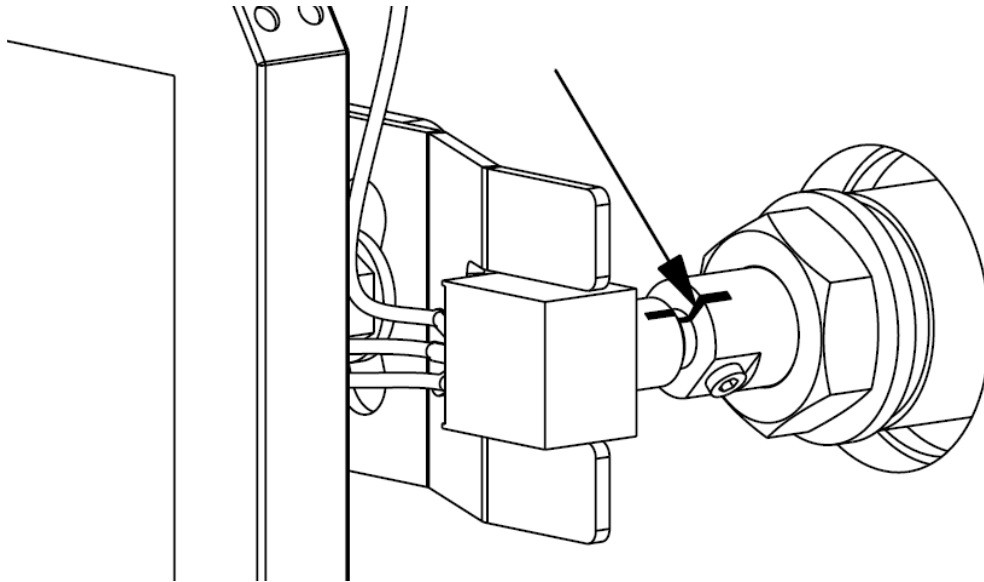

Figure 7-10: Potentiometer-shaft alignment marking
29. Position the potentiometer with the mounting bracket and insert the potentiometer into the end of the sensor shaft. Ensure the mark created in *Step 7* on the potentiometer and sensor shaft are aligned. Reference **Figure 7-10**.